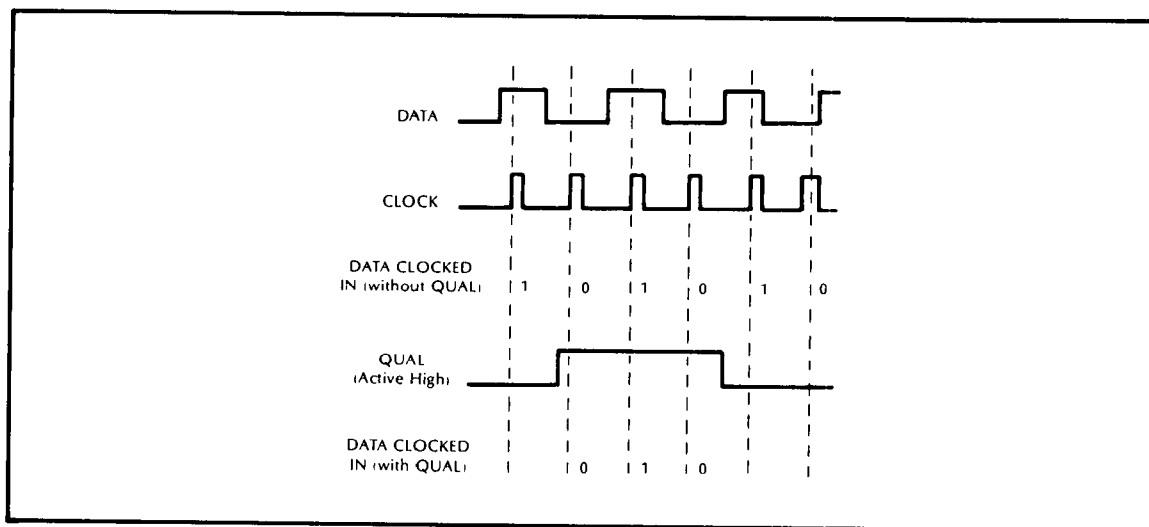

Figure 3-4. Signature Analysis Measurement Timing
3-59. The NORM Signature Analysis (SA) mode employs a unique data compression technique that reduces any long, complex data stream pattern on a logic node to a four-digit "signature". The operator supplies the Start and Stop signals to identify the data stream, and a Clock signal to control the sample rate of the probe input. An illustration of the timing involved in a Signature Analysis measurement window can be seen in Figure 3-4.
3-63. The QUAL Signature Analysis mode is similar to the NORM mode, but with the following enhancement. In this mode, the STOP/QUAL input on the Timing Pod is sensed as a "data qualifier". Conceptually, the qualifier can be thought of as an "enable" signal. By controlling the logic state of this input, the operator can effectively window the signature measurement within a specific stream of data. Refer to Figure 3-4. The trigger thresholds for the inputs are selectable from the standard preset values of the three logic families (TTL, ECL, 5V CMOS), or adjustable between -12.5V and $+12.5\text{V}$ (in 50mV steps). The selected value for the ST/SP/QUAL THRESHOLD applies to the Start, Stop, and Qualify signals, via the START/ST/SP and STOP/QUAL Timing Pod inputs. The slope for CLOCK, START, STOP and QUAL, is selectable using the POLARITY keys. When in the QUAL Signature mode, the red Timing Pod lead is the QUAL (qualifier) input, and the green Timing Pod lead is both the START and STOP input. The measurement is made through the Data Probe.